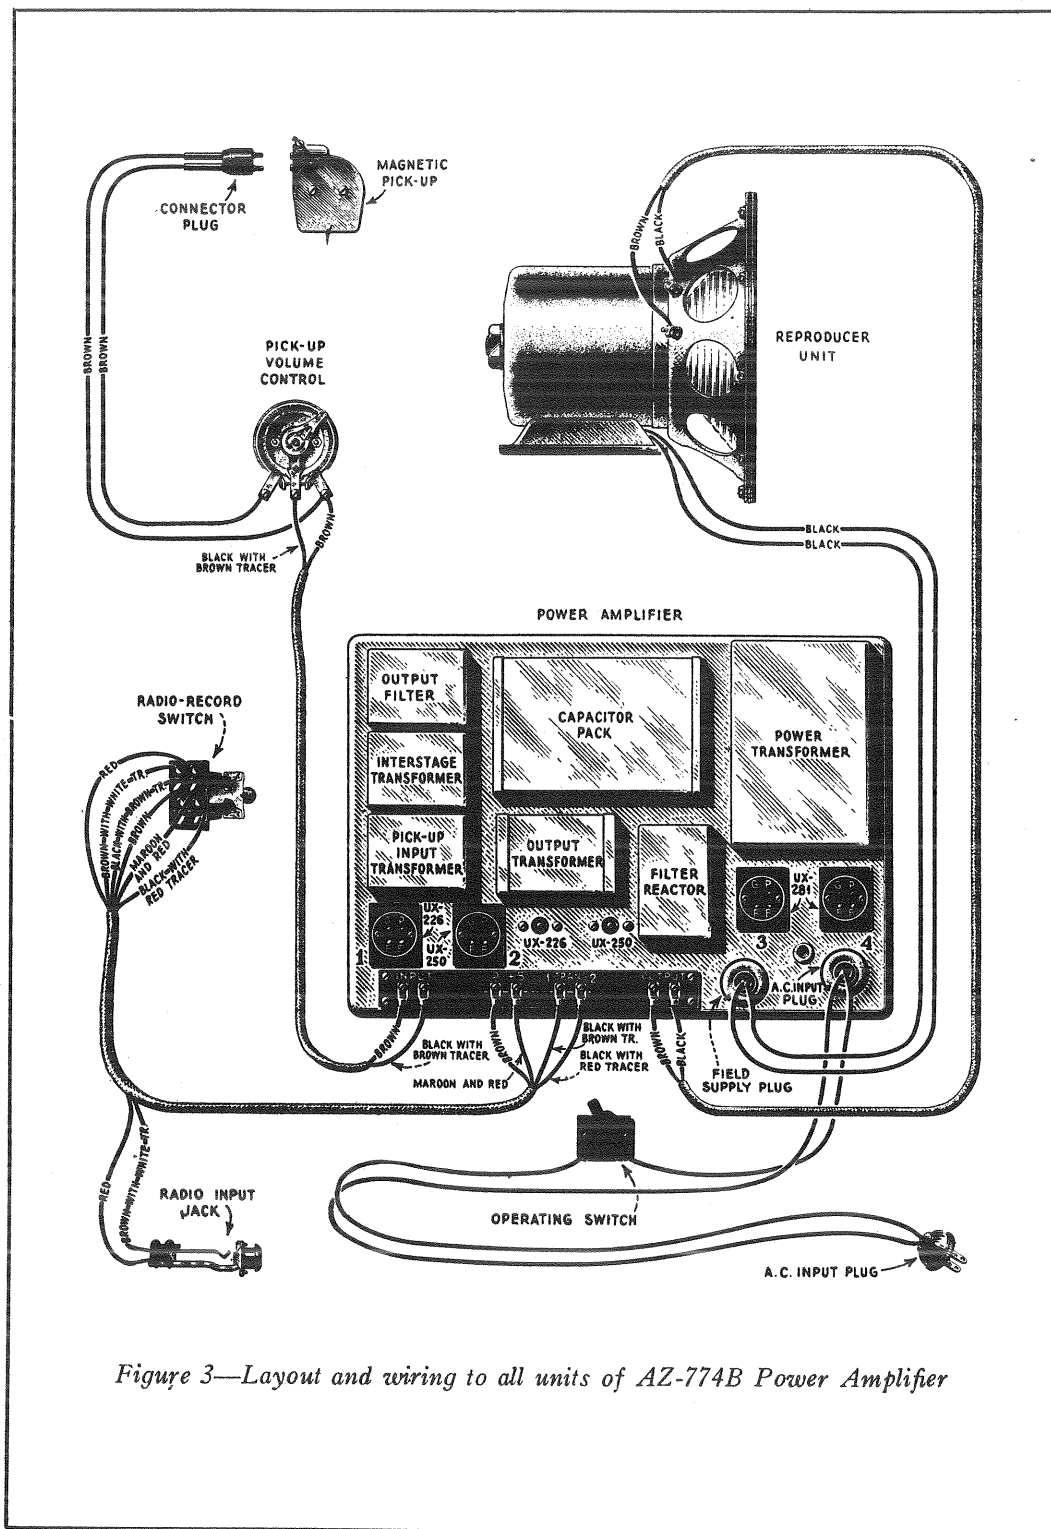

Figure 3—Layout and wiring to all units of AZ-774B Power Amplifier
The actual installation of this equipment will vary with each individual case. However, the wiring, regardless of the location of parts, must be as shown in Figure 3. It is desirable that the parts be located within the radius of the various cables used for connecting purposes. However, if placing a unit beyond the radius of a particular cable is desirable, an extension cable or cord may be spliced to the cable. This may be of ordinary lamp cord or any other suitable conductor.
- (b) With a screwdriver adjust the potentiometer marked "UX-226" Figure 3 until a point is found that gives the least amount of hum.
The socket contacts, numbers and terminals used in these tests are shown in Figures 3 and 9.